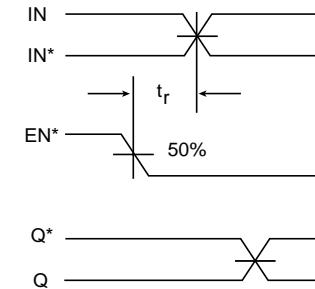

Figure 3. Release Time
11. The release time is the minimum time that EN must be deasserted prior to the next IN/IN^* transition to ensure an output response that meets the specified IN to Q propagation delay and output transition times (see Figure 3).